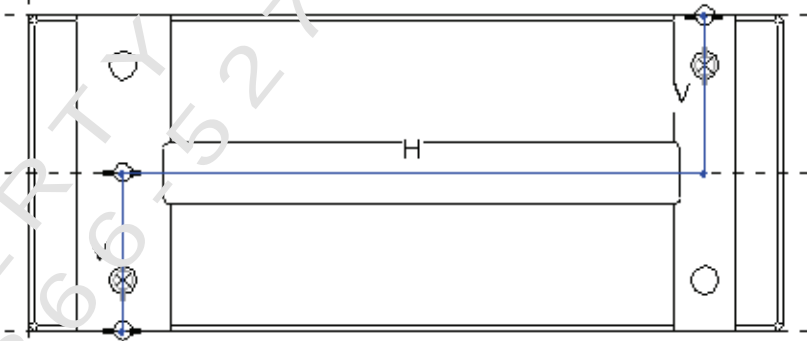

Figure 1–67
16. Select **Sketch > Line > Line** and sketch the cross-section shown in Figure 1–67.